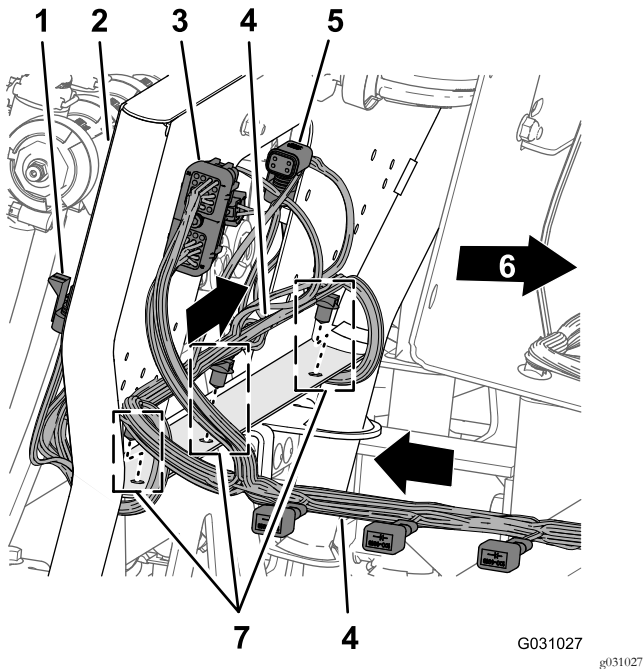

Figure 126
1. Route the 203 cm (80 inches) wire harness branch across the back of the 10-valve mount with the 10 connectors for the nozzle valves rearward and below the valves (Figure 126).
2. Insert the fir-tree anchors of the 203 cm (80 inches) wire harness branch into the holes in the lower flange of the 10-valve mount (Figure 126).